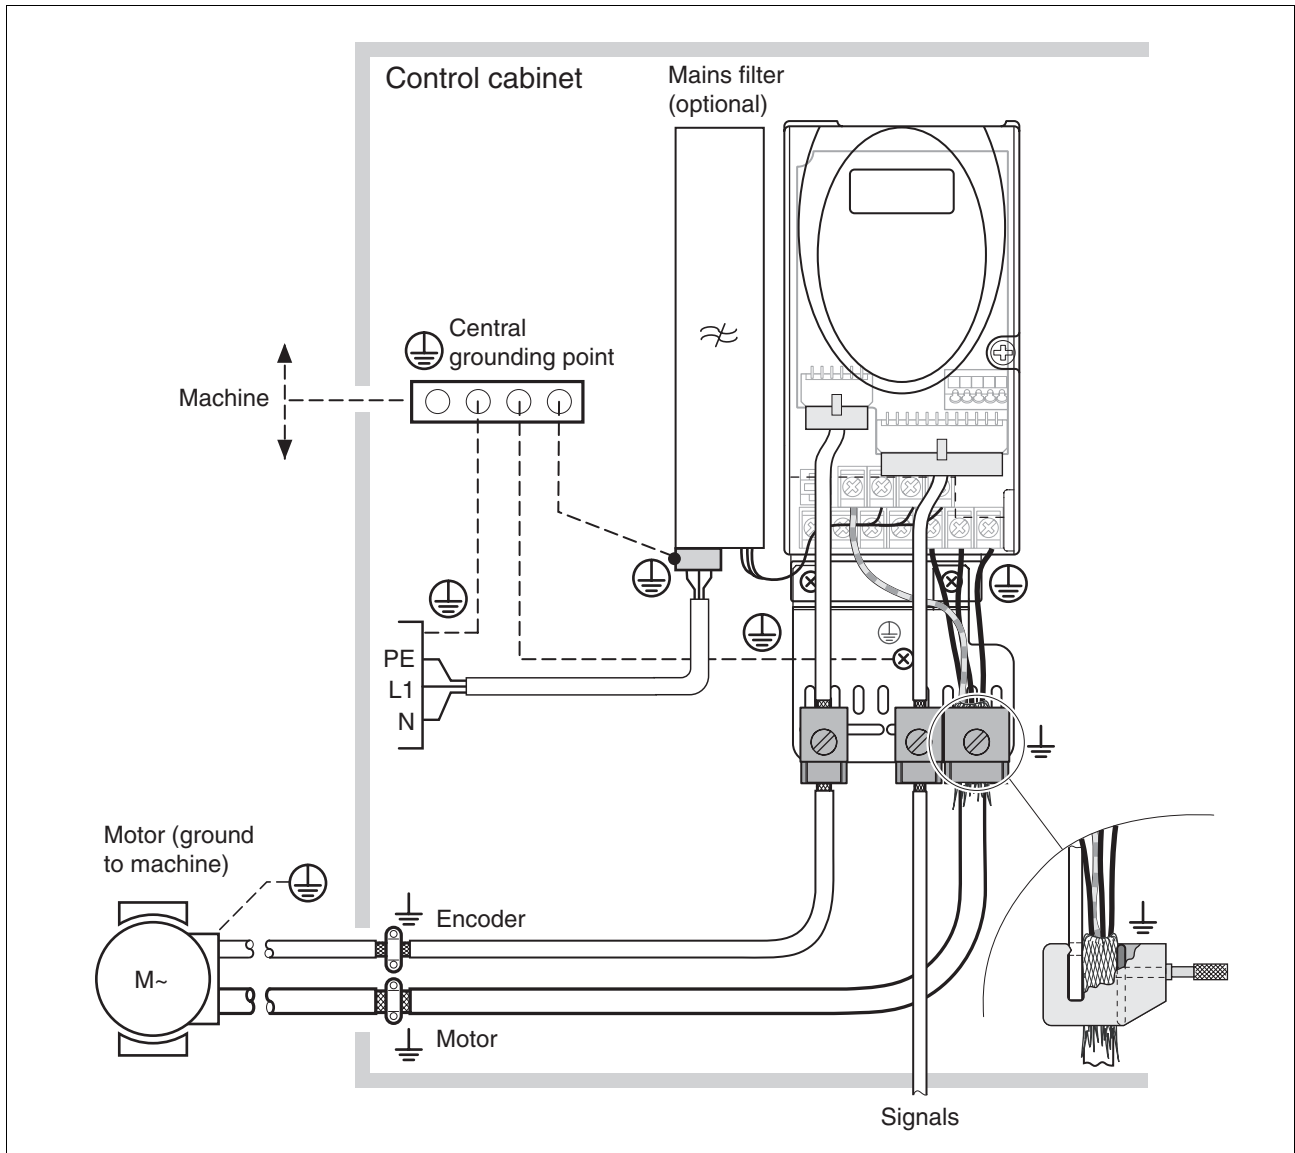

Figure 4.1 EMC measures¹
- ▶ Mount the EMC plate at the bottom of the device, see also Figure 4.1, or use alternative connection elements (busbars, shield clamps or similar).